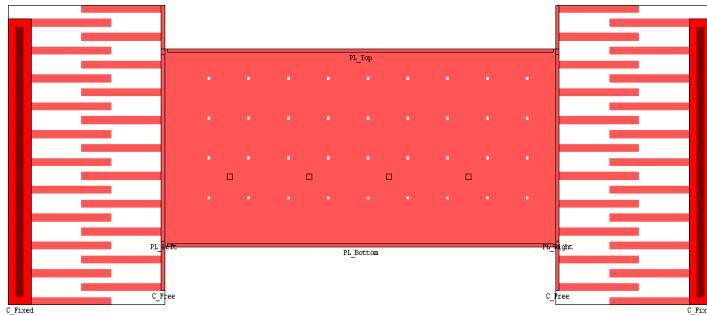

Figure 21: Viewing the uncomplete design
- Attach the second comb-drive to the left side of the plate (Figure 21).